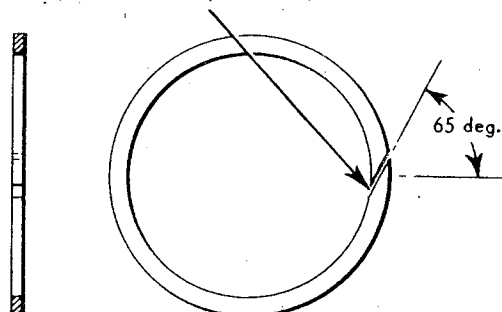

Fig. 2 Piston head sealing ring
(2) Fit a new backing seal and two new sealing rings to each of the piston head grooves. Slit each ring as shown in figure 2 immediately prior to fitting. When fitting, space the first pair of rings with the slits 180 deg. apart and similarly space the second pair with the slits at 90 deg. to those of the first pair.